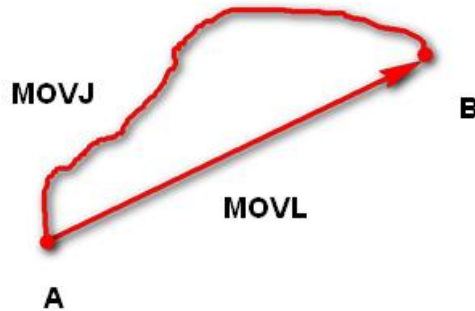

Figure 1.1 MOVL/MOVJ mode
- **MOVJ:** Joint movement. From point A to point B, each joint will run from initial angle to its target angle, regardless of the trajectory, as shown in Figure 1.1.
- **MOVL:** Rectilinear movement. The joints will perform a straight line trajectory from point A to point B, as shown in Figure 1.1.